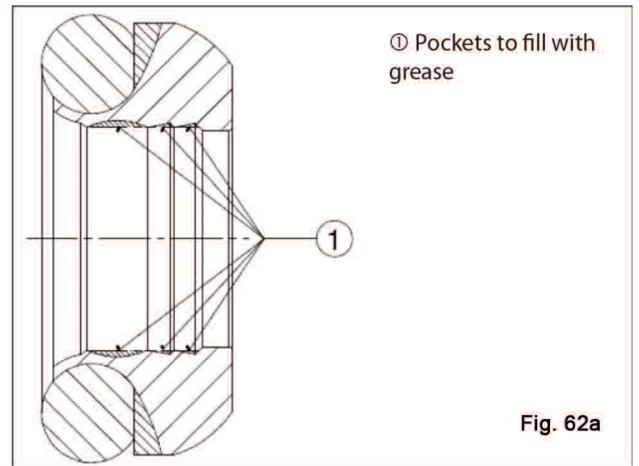

Fig. 62a
- On the internal diameter, grease must be applied paying great attention to filling all the pockets between the sealing lips as shown in fig. 62a.